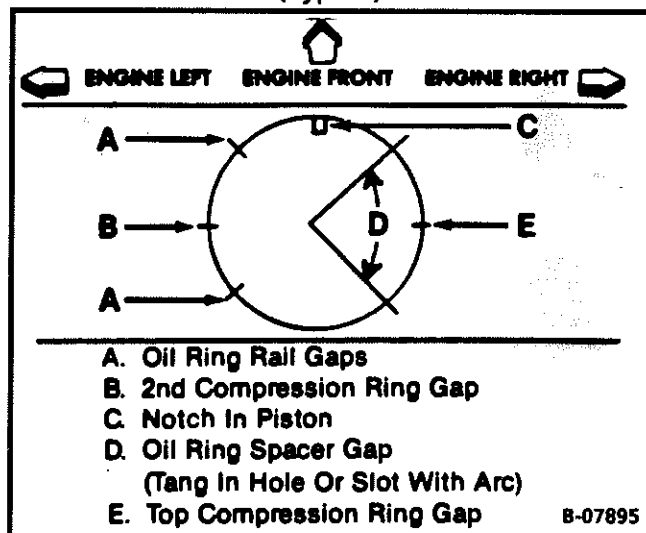

Figure 25 - Piston Ring End Gap Location
- Make sure the gap in the oil ring rails is in the up position toward the center of the engine and the gaps of the compression rings are positioned as shown in Figure 25.